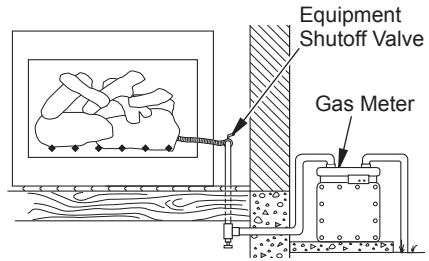

Figure 5 - Checking Gas Joints
1. Close equipment shutoff valve (see Figure 5).
3. Check all joints from gas meter to equipment shutoff valve (see Figure 5). Apply a noncorrosive leak detection fluid to all joints. Bubbles forming show a leak.